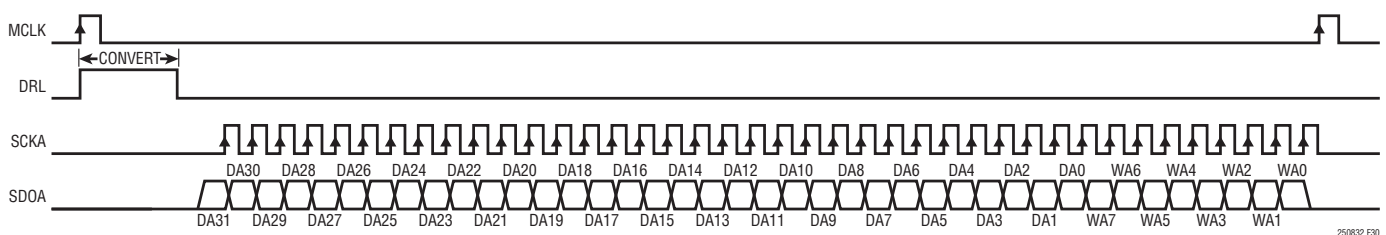

Figure 30. Using LTC2508-32 to Read Filtered Output
An 8-bit configuration word,  $WA[7:0]$ , is appended to the 32-bit output code on SDOA to produce a total output word of 40 bits as shown in Figure 30. The configuration word designates which downsampling factor (DF) the digital filter is configured to operate with. Clocking out the configuration word is optional. Table 3 lists the configuration words for each DF value.